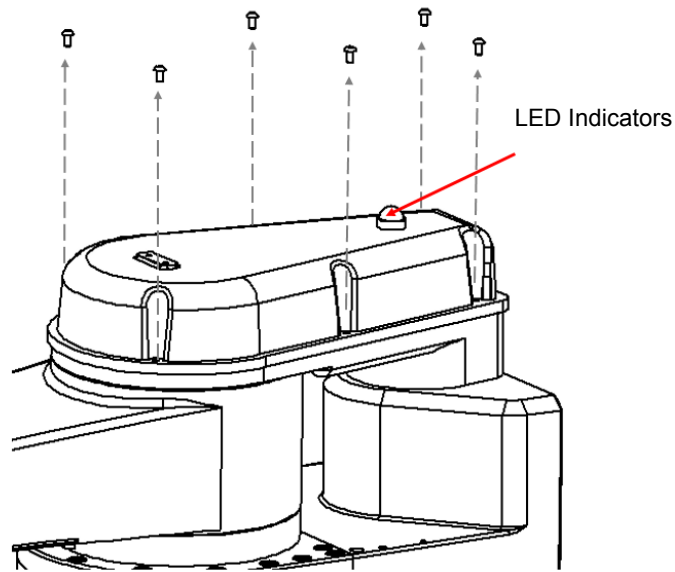

Figure 4-2 Removal of fastening screws
Step 1 Use 2.5 mm Allen wrench to remove the fastening screws from the robot cover 1, and take out the robot cover 1, as shown in Figure 4-2.